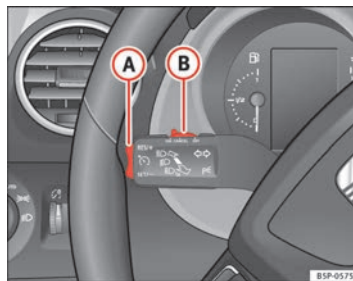

Fig. 150 Turn signal and main beam headlight lever: switch and rocker switch for the cruise control
- Push the switch ⇒ fig. 150 (B) to the left to **ON**.